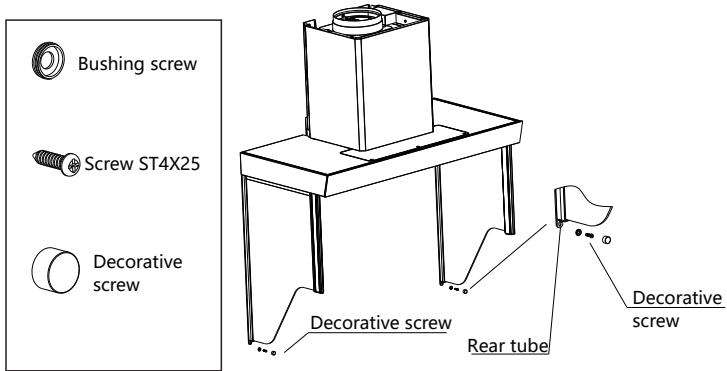

Figure 4.9
- While keeping the left and right side panel perpendicular to the hood, use a marker to mark the center of the long hole in the rear tube. Remove the left and right side panel and use the  $\text{Ø}6$  drill bit to drill the hole perpendicular to the wall at the marked position. The hole dept is 40-50 mm. Inset the  $\text{Ø}6$  expansion anchor into the hole and align the outer end with the wall. Reinstall side panel (previous step), lock the screw (F) then insert the ST4\*25 screw into the bushing screw to secure side panel in its position. Finish with screwing the decorative screw (see figure 4.9).